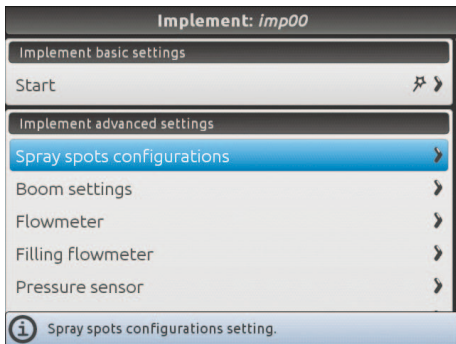

Fig. 64
**THE BASIC SETTINGS (Chap. 9), AFFECT WHICH MENU ITEMS ARE DISPLAYED IN Fig. 64 AND WHICH ADVANCED SETTINGS IT IS POSSIBLE TO CONTROL.**